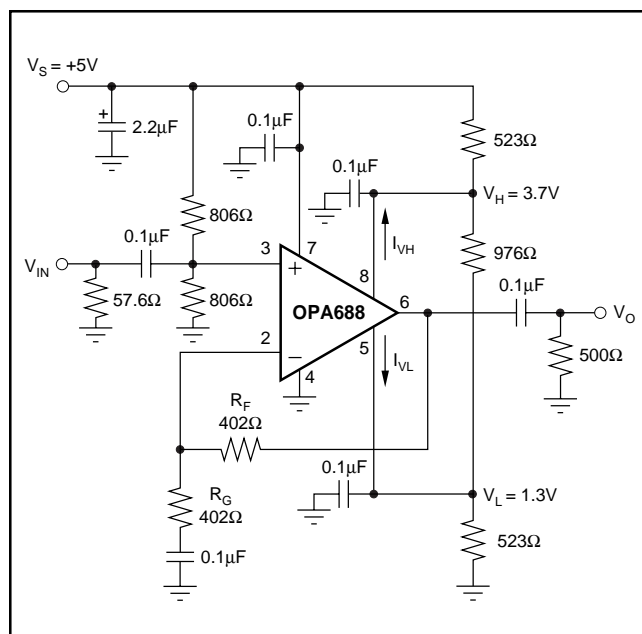

FIGURE 2. AC-Coupled, Single Supply Amplifier.
$G = +2$ ,  $R_L = 500\Omega$  tied to  $V_{CM} = 2.5V$ ,  $R_F = 402\Omega$ ,  $V_L = -1.2V$ ,  $V_H = +1.2V$  (Figure 2 for AC performance only), unless otherwise noted.
NOTES: (1) Junction Temperature = Ambient Temperature for low temperature limit and 25°C guaranteed specifications. Junction Temperature = Ambient Temperature + 23°C at high temperature limit guaranteed specifications. (2) TEST LEVELS: (A) 100% tested at 25°C. Over temperature limits by characterization and simulation. (B) Limits set by characterization and simulation. (C) Typical value for information only. (3) Current is considered positive out of node. (4) CMIR tested as < 3dB degradation from minimum CMRR at specified limits. (5)  $I_{VH}$  ( $V_H$  bias current) is negative, and  $I_{VL}$  ( $V_L$  bias current) is positive, under these conditions. See Note 3, Figures 2, and Figure 8. (6) Limiter feedthrough is the ratio of the output magnitude to the sinewave added to  $V_H$  (or  $V_L$ ) when  $V_{IN} = 0$ . (7)  $V_H$  slew rate conditions are:  $V_{IN} = V_{CM} + 0.4V$ ,  $G = +2$ ,  $V_L = V_{CM} - 1.2V$ ,  $V_H =$  step between  $V_{CM} + 1.2V$  and  $V_{CM}$ .  $V_L$  slew rate conditions are similar. (8) Linearity Guardband is defined for an output sinusoid ( $f = 5MHz$ ,  $V_O = V_{CM} \pm 1V_{p-p}$ ) centered between the limiter levels ( $V_H$  and  $V_L$ ). It is the difference between the limiter level and the peak output voltage where SFDR decreases by 3dB (see Figure 9).
$G = +2$ ,  $R_F = 402\Omega$ ,  $R_L = 500\Omega$  tied to  $V_{CM} = 2.5V$ ,  $V_L = V_{CM} - 1.2V$ ,  $V_H = V_{CM} + 1.2V$ , (Figure 2 for AC performance only), unless otherwise noted.
Figure 2 shows an AC-coupled, non-inverting gain amplifier for single +5V supply operation. This circuit was used for AC characterization of the OPA688, with a 50Ω source, and a 500Ω load.
The OPA688 is nominally specified for operation using either  $\pm 5\text{V}$  supplies or a single  $+5\text{V}$  supply. The maximum specified total supply voltage of  $12\text{V}$  allows reasonable tolerances on the supplies. Higher supply voltages can break down internal junctions, possibly leading to catastrophic failure. Single-supply operation is possible as long as common mode voltage constraints are observed. The common mode input and output voltage specifications can be interpreted as a required headroom to the supply voltage. Observing this input and output headroom requirement will allow design of non-standard or single-supply operation circuits. Figure 2 shows one approach to single-supply operation.
When the limiter voltages need to be within  $2.1\text{V}$  of the supplies ( $V_L \leq -V_S + 2.1\text{V}$  or  $V_H \geq +V_S - 2.1\text{V}$ ), consider using low impedance buffers to set  $V_H$  and  $V_L$  to minimize errors due to bias current uncertainty. This will typically be the case for single supply operation ( $V_S = +5\text{V}$ ). Figure 2 runs  $2.5\text{mA}$  through the resistive divider that sets  $V_H$  and  $V_L$ . This keeps errors due to  $I_{VH}$  and  $I_{VL} < \pm 1\%$  of the target limit voltages.